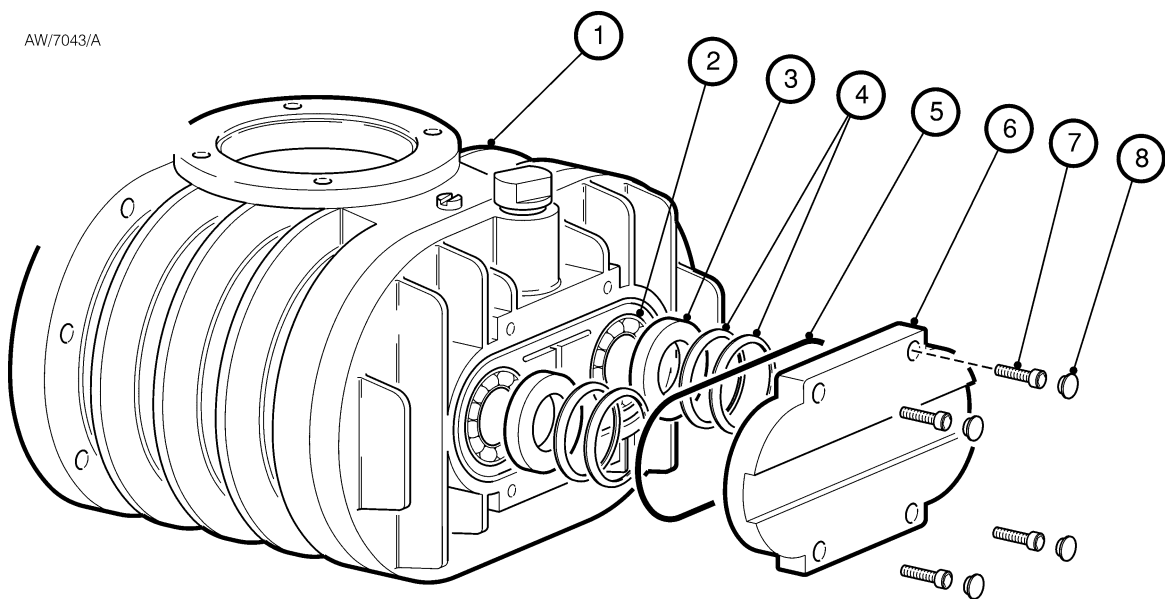

Figure 10 – Lubricate the rear bearing (ZRS 250 and ZRS 500 pumps only)
<p>WARNING</p> <p>When you remove the end-cover, take note of the exact locations of the spacers and shims (<a href="#">Figure 10</a>, items 3 and 4) inside the end-cover. You must refit these items correctly in order to ensure that the rotor clearance settings remain correct. Altering the rotor clearance settings may compromise the constructional safety of the pump.</p>
2. Refer to Figure 10. Remove the four plastic cover-caps (8) from the bearing end-cover (6).
3. Undo and remove the socket-head screws (7) located under the four plastic cover-caps.
4. Remove the end-cover (6) and O-ring (5). Dispose of the O-ring safely.
5. Note the exact location of the shims (4) and spacers (3) inside the end-cover (6). Clean off all visible grease from the end-cover taking care not to misplace or damage the shims and spacers.
6. Use a soft, clean, lint free cloth or a plastic or wooden spatula to remove all visible grease from both bearings (2).
7. Fill the visible side of each bearing (2) with clean grease, then lightly force the grease into the bearing.
8. Refill the visible side of each bearing (2) with clean grease.
9. Apply a light wipe of high-vacuum grease to the new O-ring (5) and fit into the groove in the end cover (6).
10. Check that the shims (4) and spacers (3) are correctly located in the end-cover (6).
11. Refit the end-cover (6) and secure it with the four socket-head screws (7). Tighten the screws evenly and refit the plastic cover-caps (8).